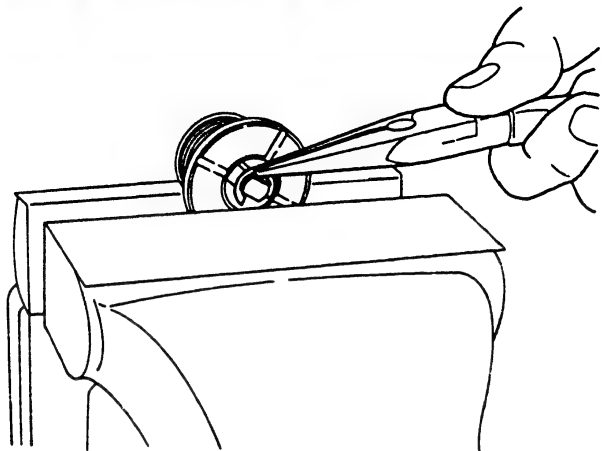

Fig. 41 Removing the snap-ring
- 1. As shown in Figure 41, grip the two spring seats in a vise.